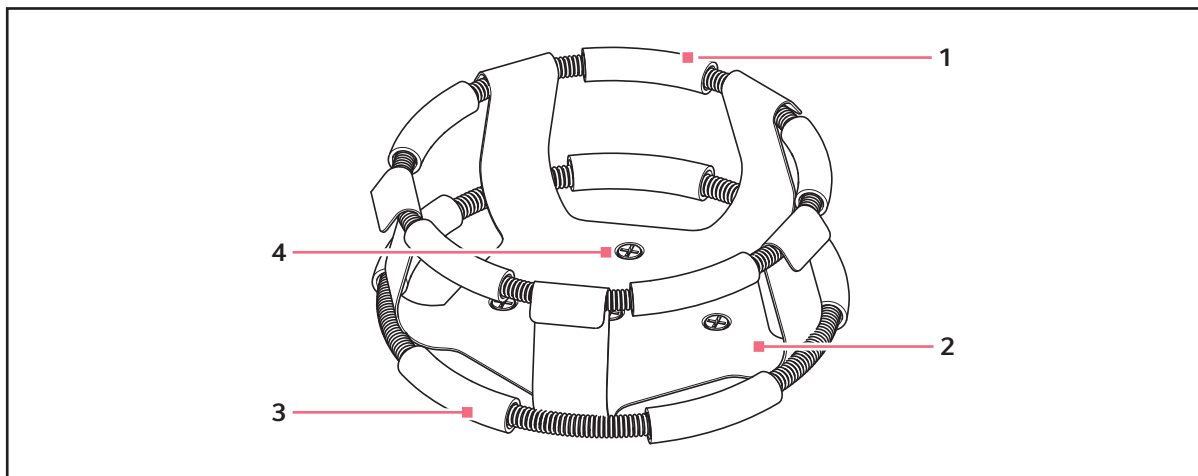

Fig. 8-3: Double girdle clamp installation
2. With the first girdle in place, as delivered, on the upper part of the clamp body (see Fig. 8-3 on p. 43), insert an empty flask into the clamp.